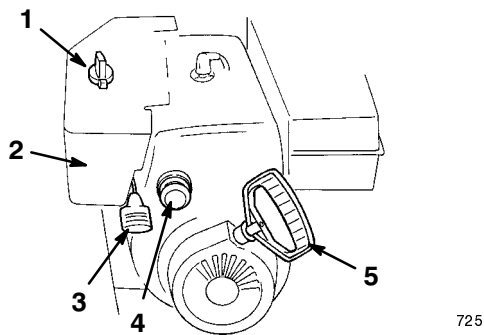

Figure 15
- **Choke** (Fig. 15)—Move the choke to the *Full* position to start a cold engine. As engine warms up, gradually move choke to the *Off* position.
- **Ignition Switch** (Fig. 15)—Insert the key before starting the engine. To stop the engine, remove the key.
- **Throttle** (Fig. 15)—Move the throttle upward to increase the engine speed; move it downward to decrease the engine speed.
- **Primer** (Fig. 15)—Press the primer to pump a small amount of gasoline into the engine for improved cold-weather starting.
- **Recoil Starter** (Fig. 15)—Pull the recoil starter to start the engine.
2. Remove the key from the ignition switch (Fig. 15).
3. Pull the choke knob off (Fig. 15).
1. Move the throttle to the *Fast* position (Fig. 15).
4. Rotate the choke (Fig. 15) to the *Full* position.
5. Insert the ignition key (Fig. 15).
6. Cover the hole in the center of the primer (Fig. 15) with your thumb and slowly push in the primer three times, pausing after each push.
- A. Grasp the recoil starter handle (Fig. 15) and pull it out slowly until positive engagement results; then pull the handle vigorously to start the engine.
8. After the engine starts, immediately rotate the choke (Fig. 15) to the 3/4 position. As the engine warms up, rotate the choke to the 1/2 position. When the engine warms up sufficiently, rotate the choke to the *Off* position.